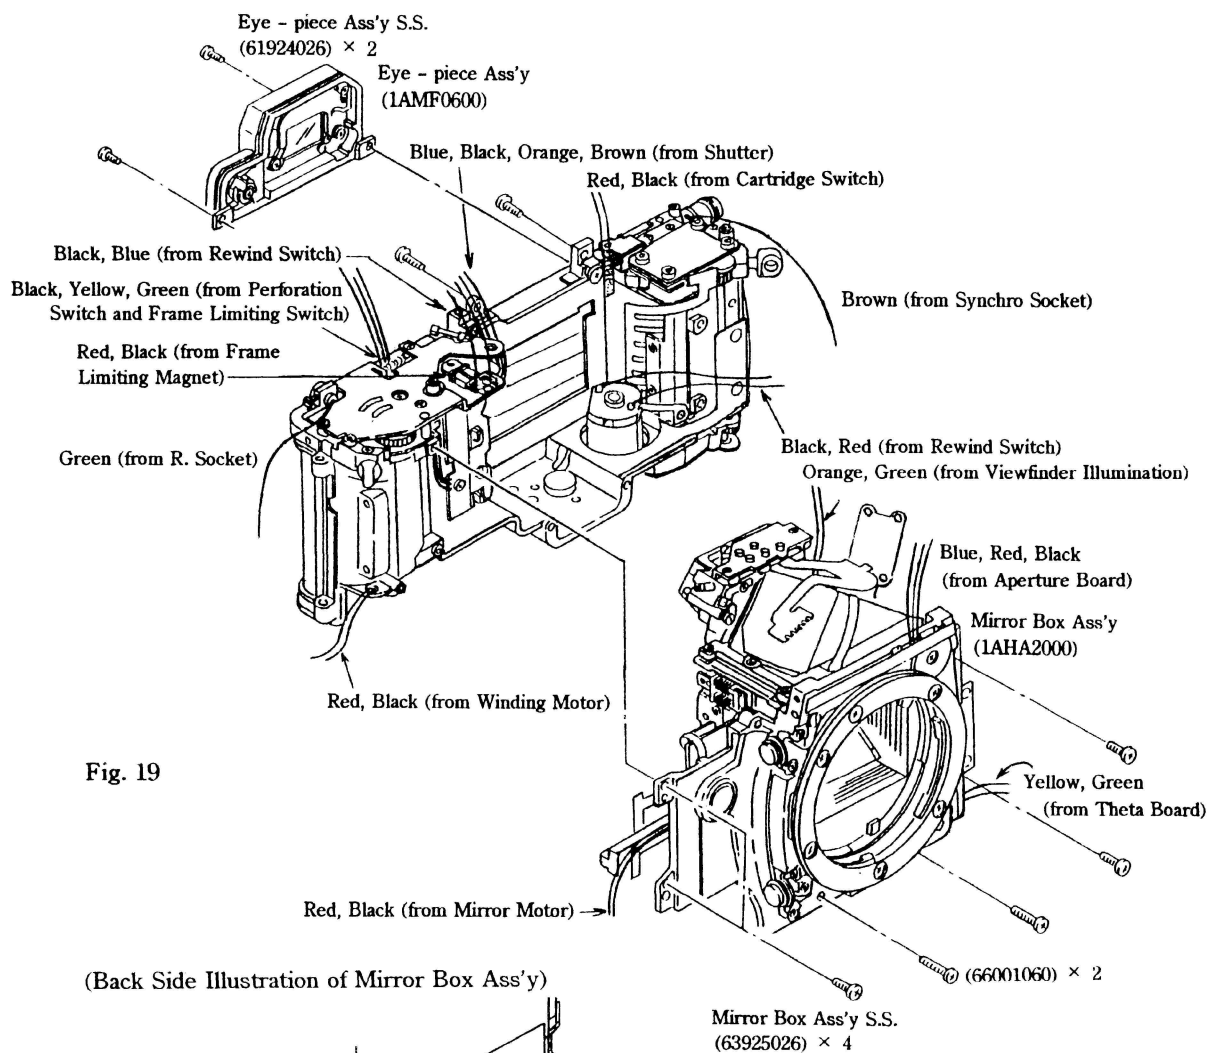

Fig. 19
- a) The lead wires connected to the Body and those connected to the Mirror Box Ass'y must be placed out of the Body as shown in Fig. 19. And when installing the Mirror Box Ass'y, take care not to catch any lead wires or FPC between the Body and the Mirror Box Ass'y.